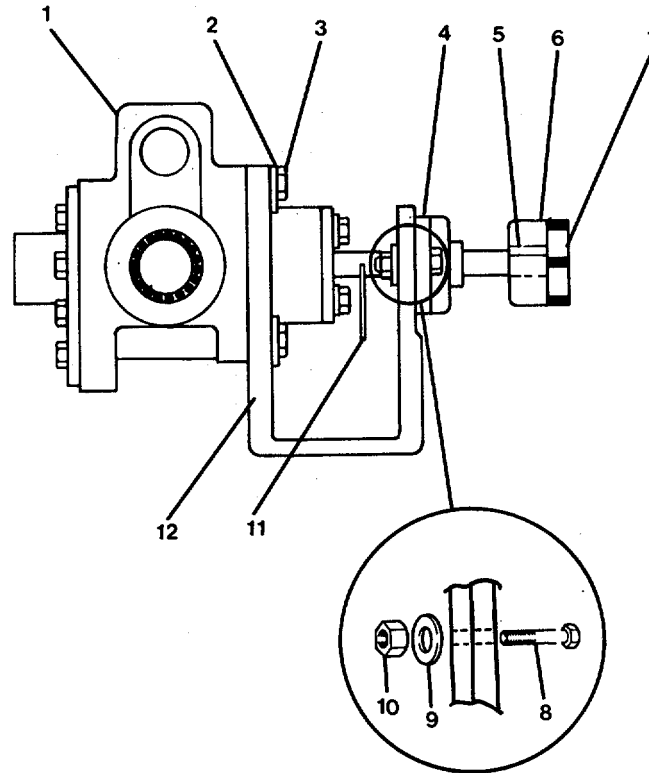

FIGURE 3-96. Pump Shaft Assembly.
- n. Install centrifugal pump impeller (7).
- o. Install impeller nut (11) by turning nut clockwise.
- p. Install casing (13) over stuffing box assembly, being careful to not pinch or disturb preformed packing (14) as mounting screw holes are aligned.
- q. Install eight hex head capscrews (1). Tighten opposing capscrews evenly around the adapter until the stuffing box has been drawn evenly into the casing. Then alternately tighten each capscrew to 25 ft-lb torque (33.9 N•m).
- r. Install plug (12).
- s. Install metal tube assembly (5) by connecting fittings (2) and (4).
- (1) Position the motor to the pump by upending the assembly on the motor end and tapping the pump with a soft face hammer in different directions until the impeller can be turned freely in the casing. This is accomplished by reaching into the suction port and turning the impeller by hand.
- (2) Secure motor adapter (25) to motor (26) with four hex head capscrews (24).
**3-112. REPAIR ROTARY PUMP UNIT (FUEL OIL TRANSFER, PRELUBE OIL TRANSFER, DIRTY LUBE OIL). (Figure 3-96).**